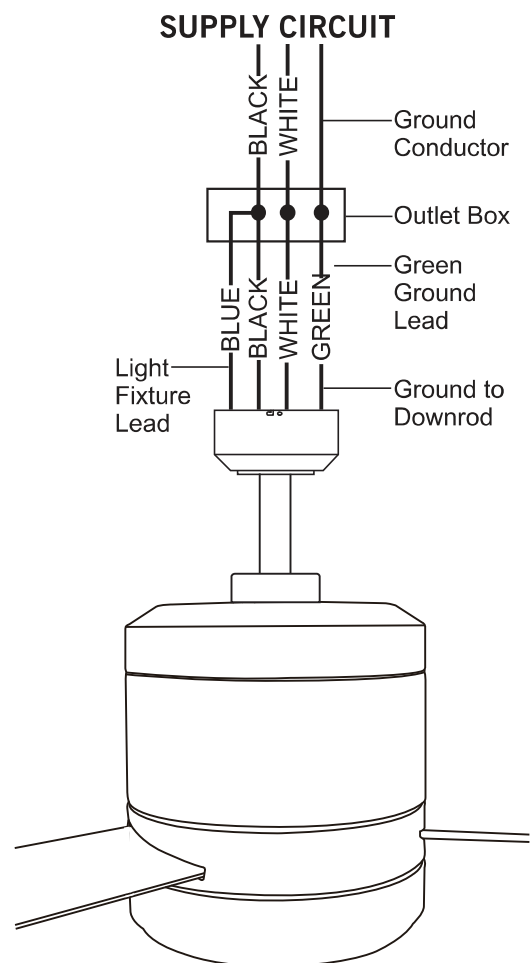

Fig.14
Step 1 Connect the fan supply (black) wire and light fixture (blue) wire to the black household supply wire as shown in (Fig.14).